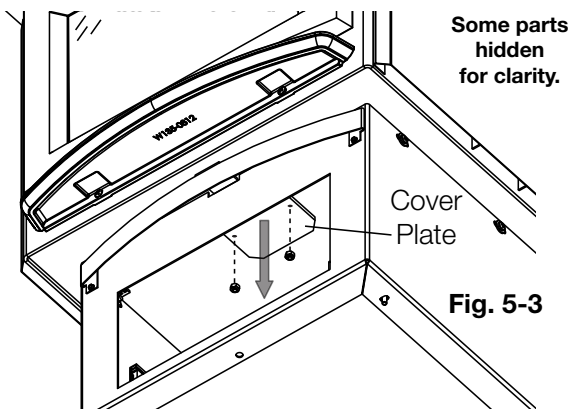

Fig. 5-3
2. From the underside of the appliance, remove the nuts that secure the ash opening cover plate (**Fig. 5-3**). Discard.